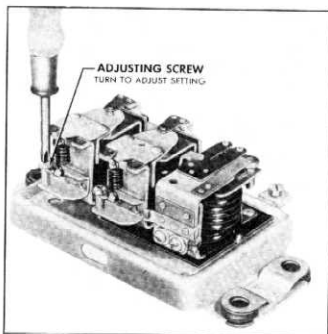

Fig. 20—Voltage Regulator Adjusting Screw
8. To adjust voltage setting, remove regulator cover and turn adjusting screw (fig. 20) clockwise to increase voltage setting or counterclockwise to decrease voltage setting.